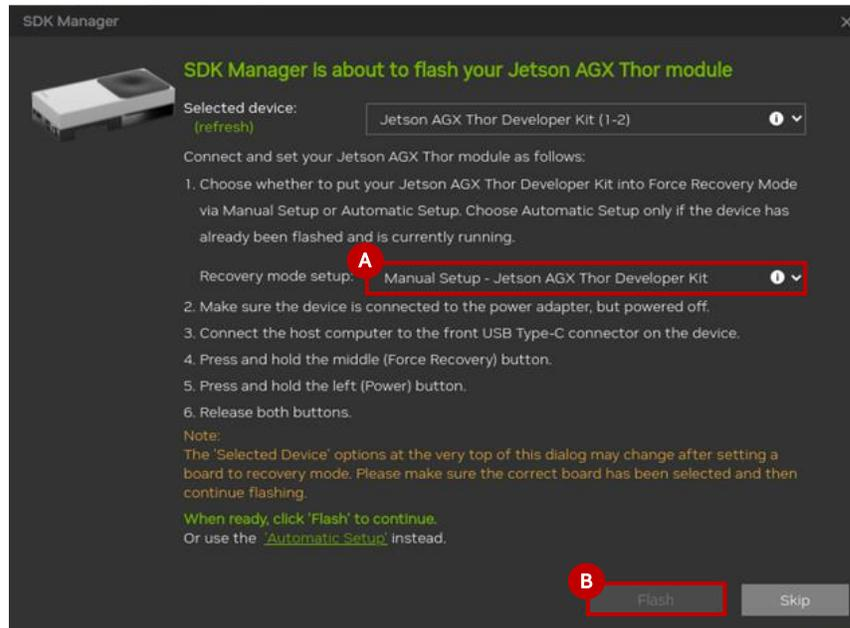

Figure 6.21. Recovery Mode Selection
11. After the installation completes, the SDK Manager displays a dialog box to flash the target device. Select **Manual Setup – Jetson AGX Thor Developer Kit** (see letter **A**) in the **Recovery mode setup** as shown in Figure 6.21 to begin flashing the target device. Refer to the Recovery mode step for details.